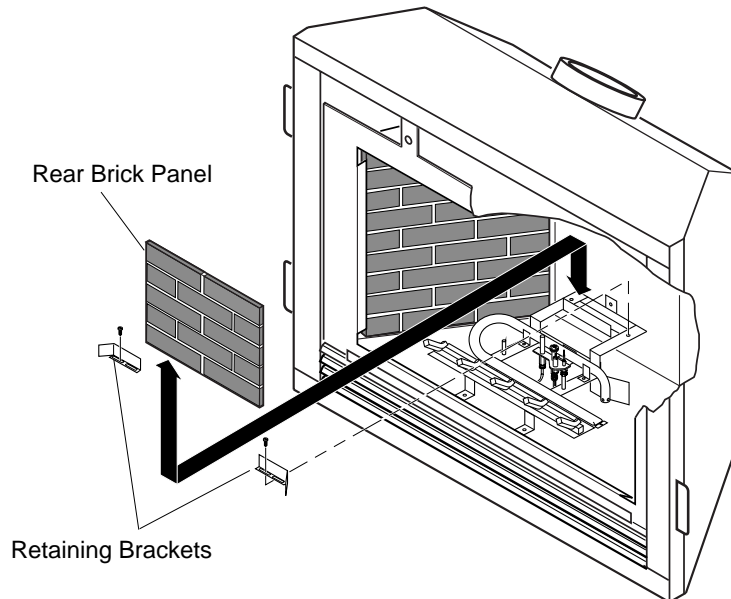

Figure 46 - Installing Rear Brick Panel and Retainer Brackets
7. Install rear brick panel. Rest bottom edge of panel on back edge of grate (see Figure 46).